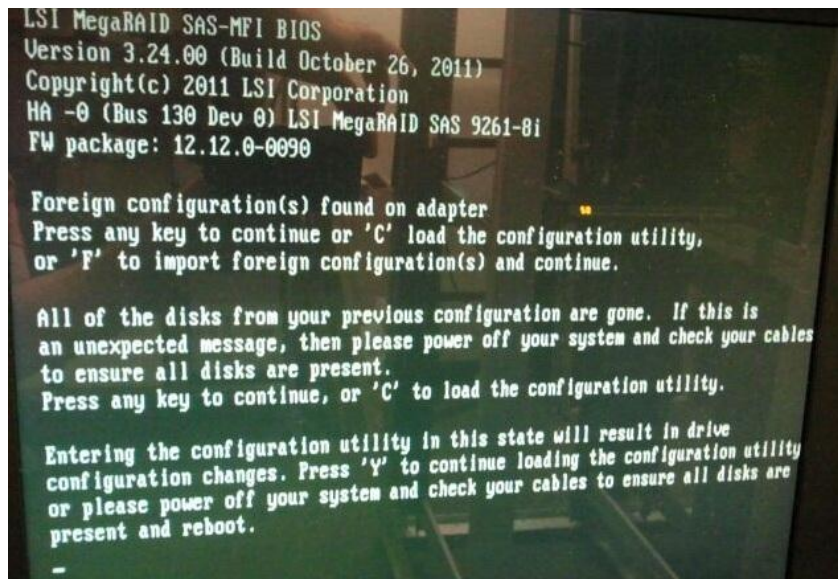

Figure 41: Messages displayed on the screen after typing 'F' and 'C'
3. After typing 'F', more messages will be shown. Please refer to Figure 41 below.